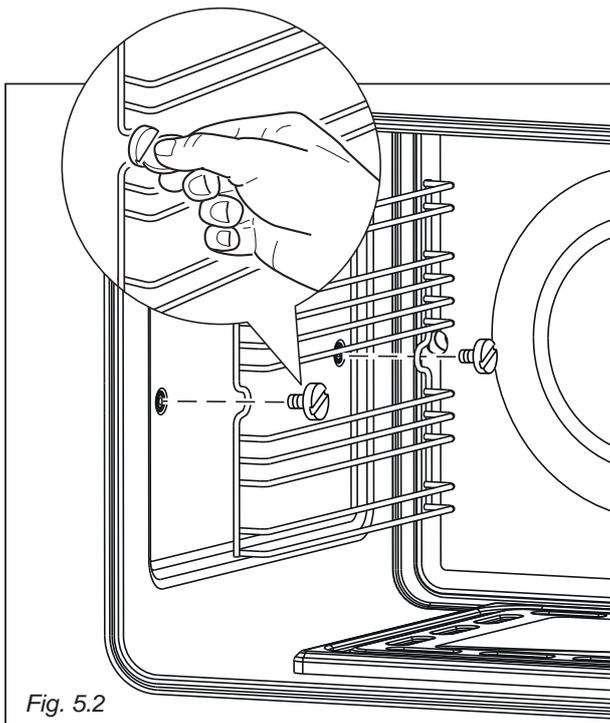

Fig. 5.2
- Assemble the wire racks to the oven walls using the 2 screws (fig. 5.2).
- Screw the side racks onto the oven wall (fig. 5.2).
- Remove the side racks by unscrewing the fixing screws (fig. 5.2).